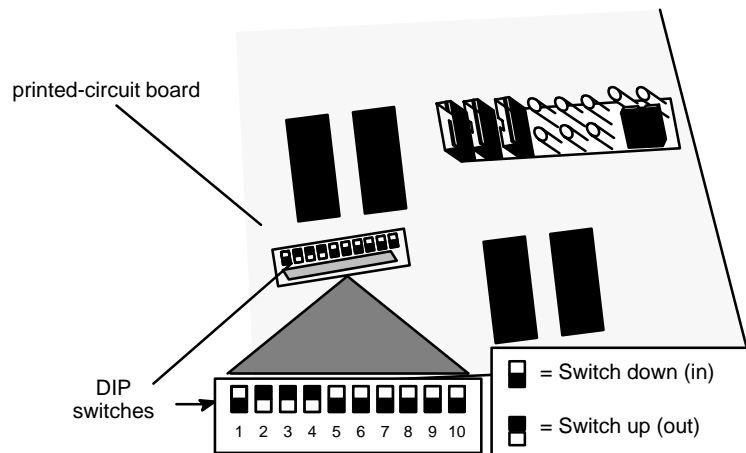

Figure 6-4 DIP Switches on Printed-Circuit Boards
3. Use a nonmagnetic pointed device to carefully push the proper switch(es) to the in or out position, as required. Figure 6-4 shows a typical row of DIP switches.